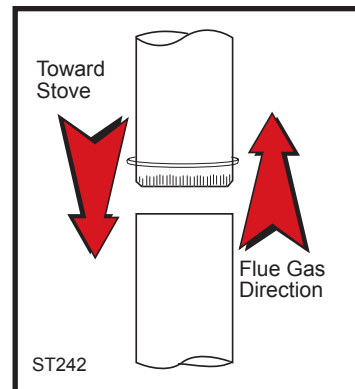

Fig. 5 Chimney connector.
- Begin assembly at the flue collar of the stove. Insert the first crimped end into the stove's flue collar, and keep each crimped end pointing toward the stove. (Fig. 5) Using the holes in the flue collar as guides, drill 1/8" (3 mm) holes in the bottom of the first section of chimney connector and secure it to the flue collar with three #10 x 1/2" sheet metal screws. Lift off the griddle, and shield the stove's surface between the griddle opening and the front of the flue collar to protect the finish when you drill the front hole.
- Fasten each joint between sections of chimney connector, including telescoping joints, with at least three (3) sheet metal screws. The pre-drilled holes in the top of each section of chimney connector serve